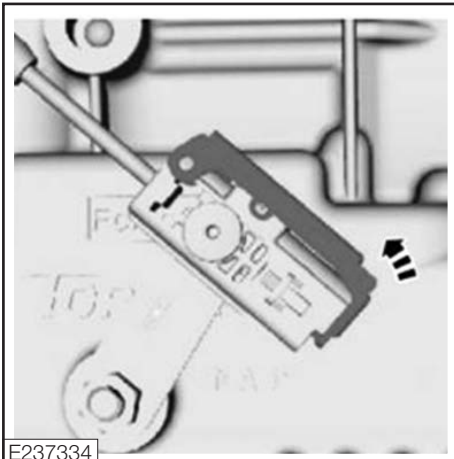

Figure 92
2. Open the adjuster lock (**Fig. 92**).